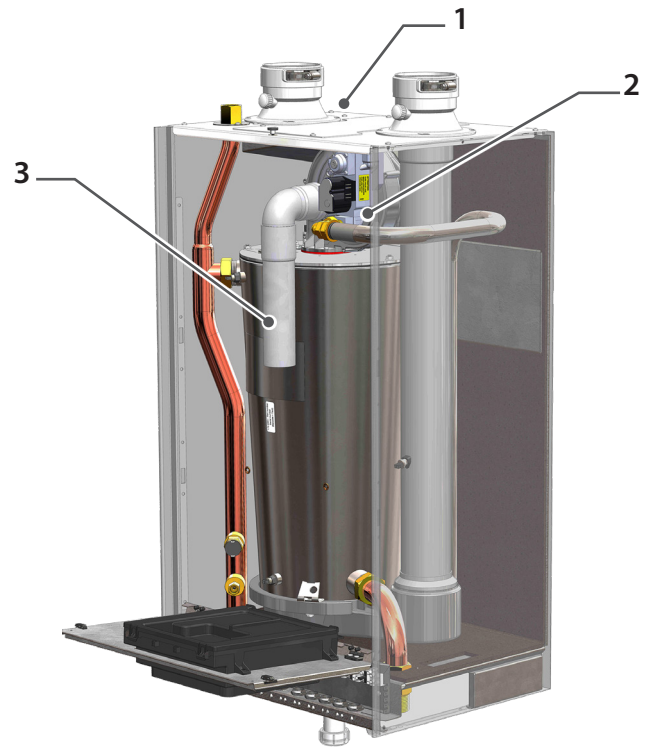

Fig. 5 - Boiler Components
1. See *Fig. 5* for reference. Remove air intake (3) from venturi. Retain for reinstallation.